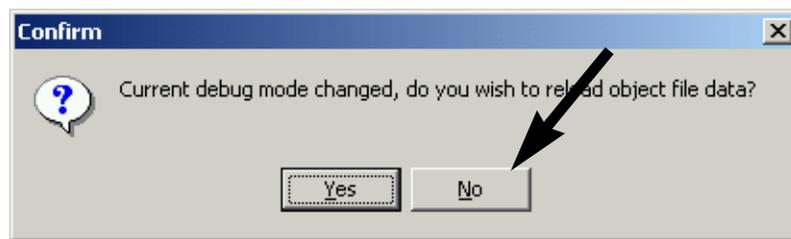

Figure 9. Programmer Confirm Window
20. Click **No** in Confirm window. (Figure 9) **Important: do not click Yes.** We do not want to program the FLASH at this time since we haven't selected valid code to replace the user program.